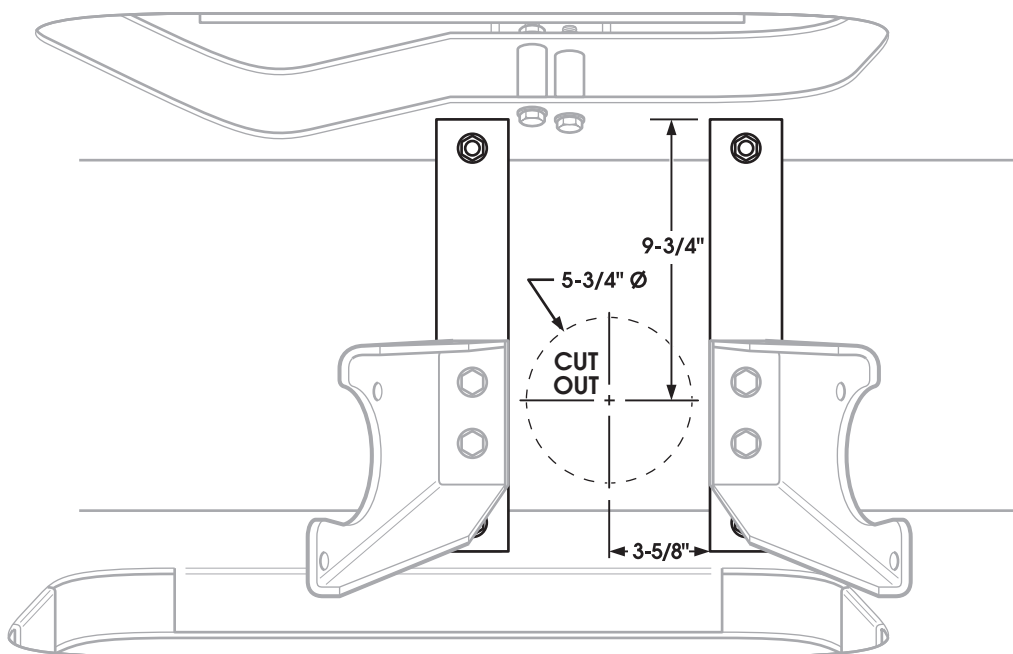

Figure 21: Fan shroud modification.
42. The engine fan shroud will need a dimple installed to allow clearance for the wire connection on top of the front axle. Measure 9 3/4 inches back from the front, front (# 1) crossmember and 3 5/8 inches over from one of the fore to aft rails that support the side axle mount brackets (See Figure 21). Using the intersection of those two dimensions, mark and cut out a 5 3/4 inch diameter circle from the shroud. Obtain the supplied dimple and drill six evenly spaced 3/16 inch holes around the outer flange. Position the dimple (protrusion up) in the hole in the shroud and use the dimple as a drill fixture to drill the fan shroud. Apply a bead of RTV sealant to the flange and pop rivet the dimple in place with the supplied rivets.